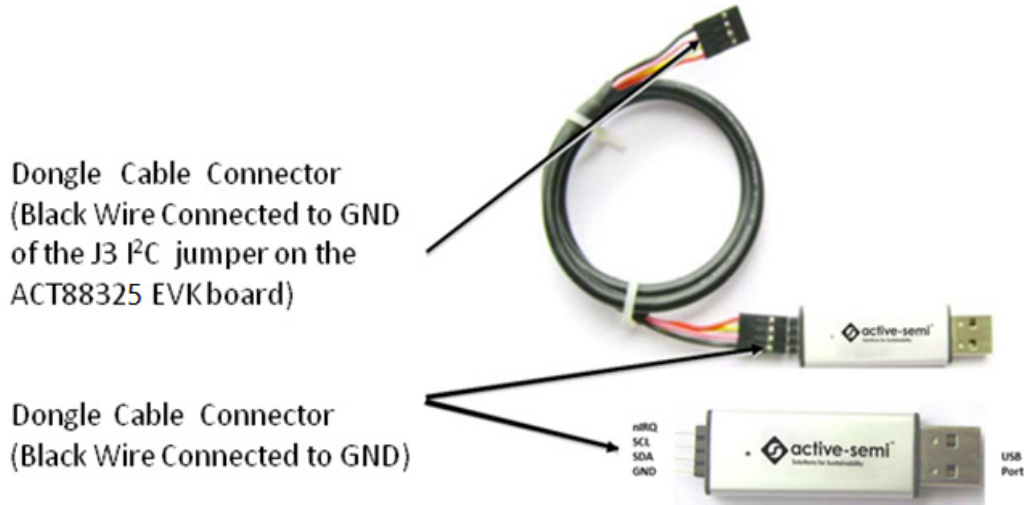

Figure 4 – USB-TO-I2C Dongle Connection
3. Connect the USB-TO-I2C dongle to the EVK J14 connector. Refer to Figure 4 to ensure the correct polarity of the connection. As a guide, use the “Active-Semi” logo on the top of the dongle so the black wire is connected to the Dongle GND pin.